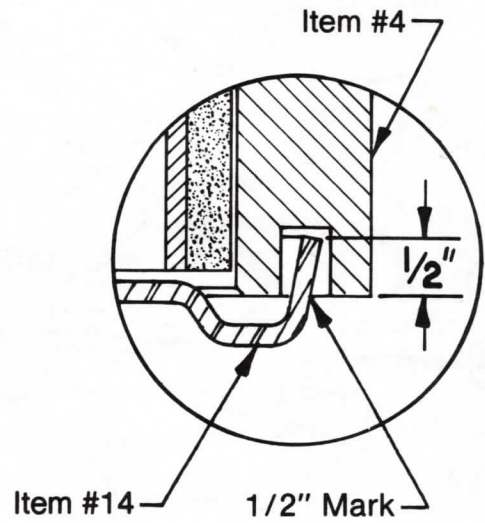

Fig. 38
9. Put a 1/2" mark on back plate to be used as a reference point. Using hydraulic pump, press drum on until the edge of brake's steel back plate enters groove in brake drum 1/2", Fig. 38.